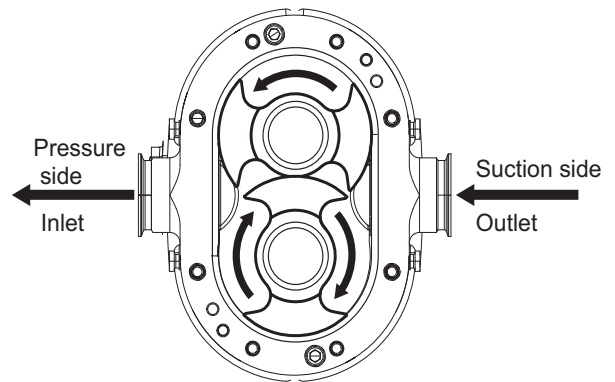
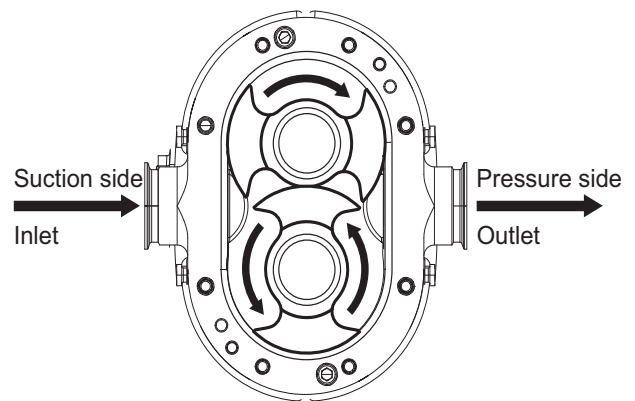

Fig. 14 Direction of rotation left
Fig. 15 Direction of rotation right
4. Turn on the motor for 2 to 3 seconds. Check the direction of rotation of the pump and the motor fan wheel, see-*Fig. 14, "Direction of rotation left," page 12* and *Fig. 15, "Direction of rotation right," page 12*. Ensure that the pump is filled with medium to prevent dry running of the shaft seal.